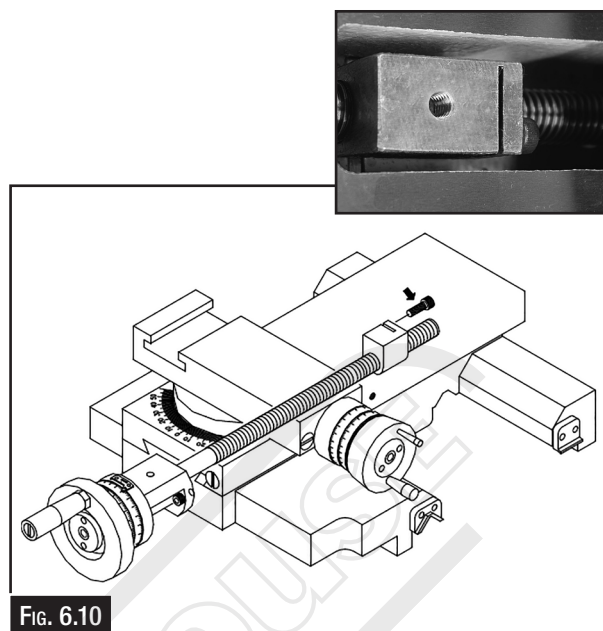

FIG. 6.10
3. With a long hex key in the cap head screw, make only small adjustment. Operating the cross slide several times by hand to be sure of smooth operation throughout the travel.(Fig. 6.10)